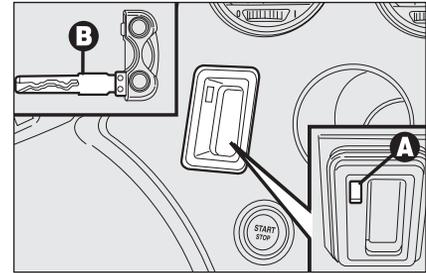

fig. 1
- fit the metal insert **B**-fig. 1 of the electronic key into the slot **A**;
**IMPORTANT** Only fit the metal insert **B** of the electronic key into slot **A**-fig. 1.